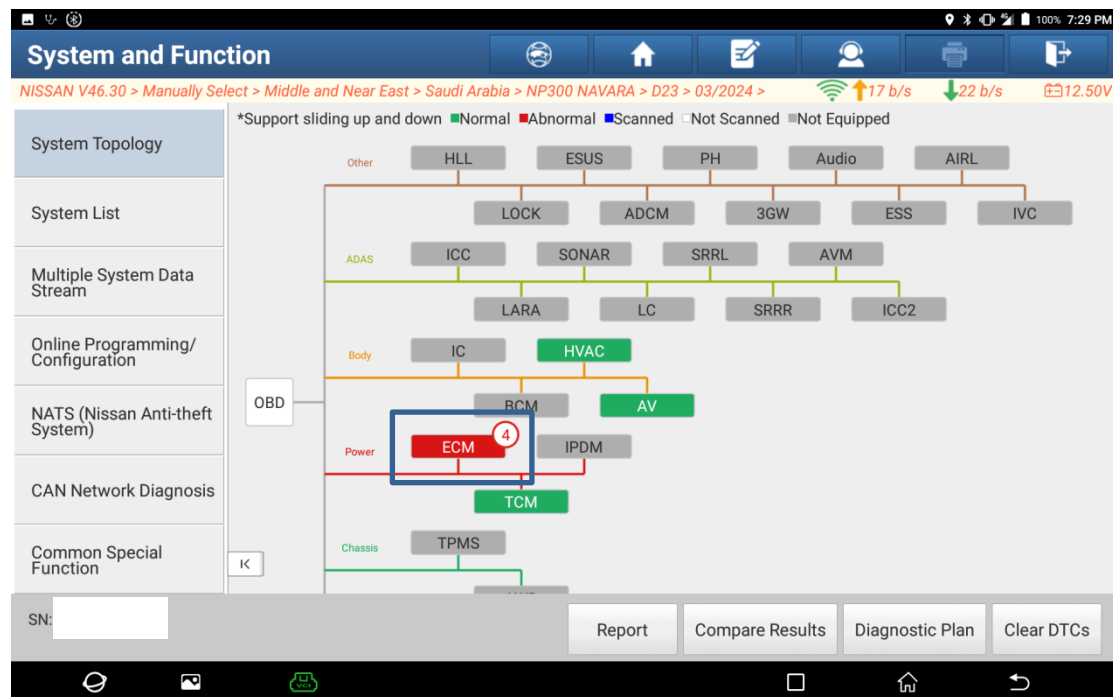

Figure 7
4. After the detection is completed, click [ECM] on the system topology (Figure 7) to display ECM DTC information (Figure 8 and Figure 9). If the diagnostic tool retrieves fault information similar to that shown in Figures 8 and 9, and peripheral issues (such as power supply or CAN communication faults) have been ruled out, it indicates an internal ECU failure, and the ECU must be replaced. Before replacing the ECU, and provided that the original ECU can still communicate normally, you must first execute the "Save Computer Data" function to back up the configuration data. After replacing the ECU, execute the "Write Saved Data" function to restore the original ECU configuration.